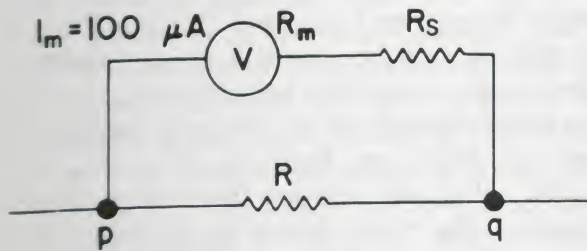

Figure 51.
2. Draw the circuit diagram as shown in Figure 51.